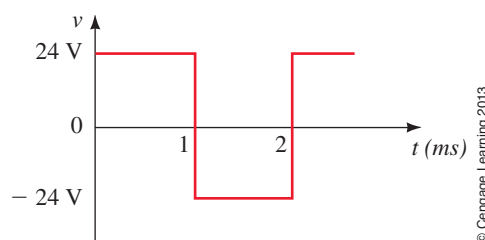

FIGURE 15-94
61. Determine the rms value of the waveform of Figure 15-94. Why is it the same as that of a 24-V battery?